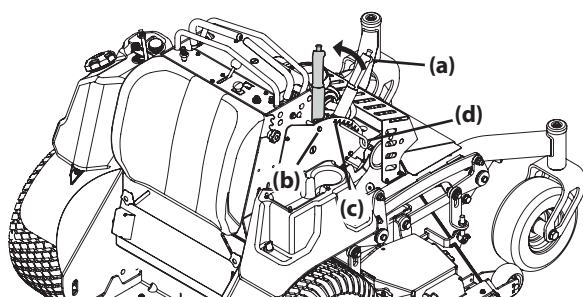

Figure 1
2. Use the deck lift handle (a) to raise the deck to the transport lock position (b) and insert the clevis pin (c) into the highest mowing setting (d) to secure the deck lift handle in place. See Figure 1.